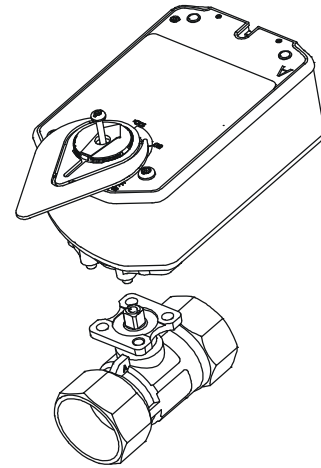

Figure 9: Mount the Actuator
6. Install the actuator on the ball valve (Figure 9). Tighten the actuator mounting screw to a torque of 10 to 12 lb-in. (1.1 to 1.4 N·m) and snap in the large adjustable pointer into place.